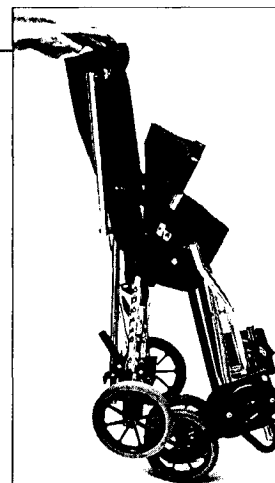

Fig.1
1. Stand chair on front casters. **Fig.1**